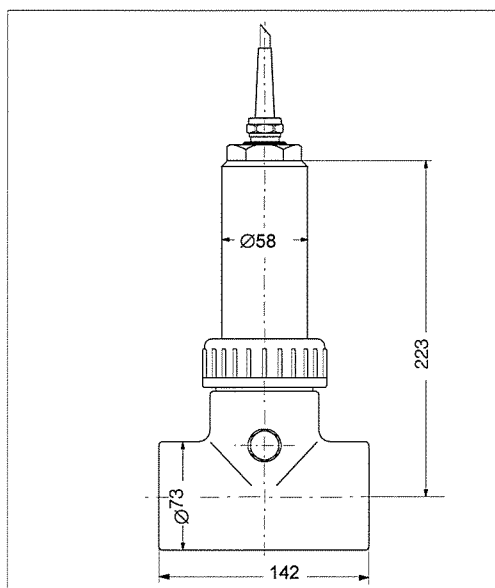

Fig. 4.4 Dimensioned drawing
- Flow assemblies CUA 250-A, CUA 250-B with optional spray head CUR 3-1 (see figures 4.4 to 4.8)
(see figures 4.4 and 4.5)